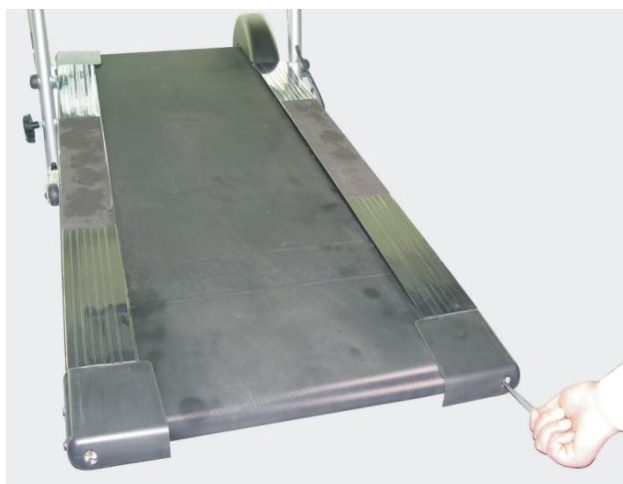

Figure 7
- 2) Check if the running belt turns smoothly or not and the running belt deviates or not when operating. Under normal condition, the running belt will turn freely and keep its position in the middle since the belt is adjusted at factory. It may run defectively if after rude transportation, please adjust it referring to the Figure 7.
- 3) Please screw bolts in the end caps to adjust the tension of running belt. Be sure that you must adjust both bolts at the same time to avoid deviate the belt. Screw counterclockwise on both bolts can release the belt, clockwise can tighten the belt. (See Figure 7)
- 4) If the running belt deviates to left side, please insert the hex end of the screwdriver into the hexagonal hole at the left or right side of the rear roller, turn 1/2 circle counterclockwise in the right side, try running again till the belt runs in the middle; or turn 1/2 circle clockwise in the left side, try running again. Please operate conversely if the running belt deviates to right side. During the operation, keep the belt in a proper tension state. (See Figure 7)